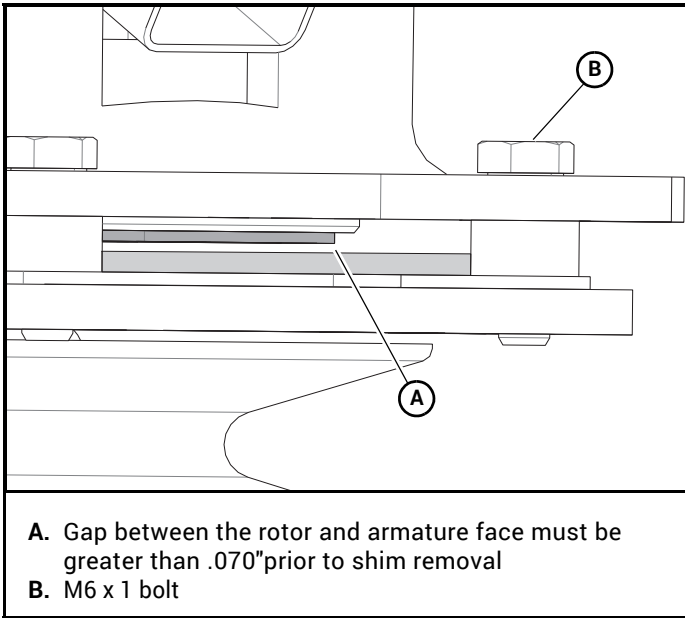
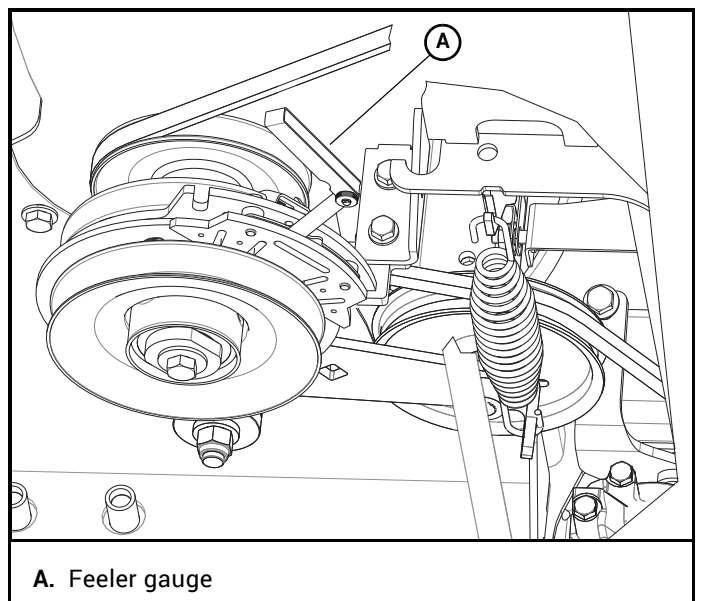

Figure 6-19
Figure 6-22
Check the air gap between the rotor and armature with a feeler gauge (Figure 6-19 or Figure 6-22). If the gap is less than .070", then follow the troubleshooting procedure outlined in Warner Electric P-1177 installation troubleshooting guide available on Warner Electric's web site-[www.Warnerelectric.com](http://www.Warnerelectric.com). If the air gap is over .070", follow the procedure outlined below.
5. Use a .015" thick feeler gauge to verify that a gap is present between the rotor and armature face on both ends of the brake pole as shown. Figure 6-22